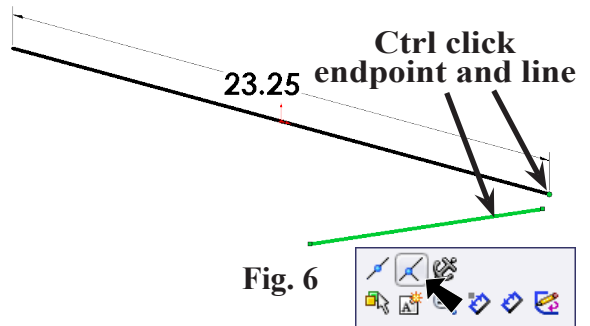

Fig. 6
Step 13. **Ctrl click line and right endpoint of first line. Release Ctrl key and click Make Coincident**  on the Content menu, **Fig. 6**.